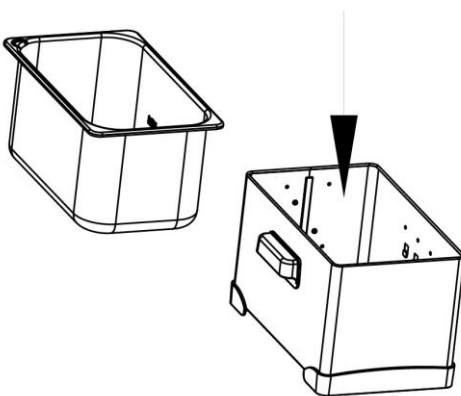

Fig. 1
3. Fit the oil tank into the outer casing (fig. 1 & 2).
- How to fit and remove the oil tank – fig. 1.